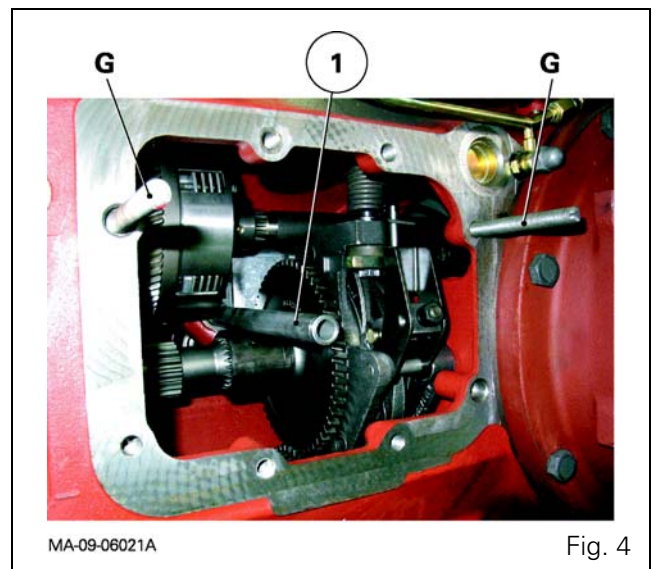

Fig. 4
7. If necessary, remove the transfer pipe (1) (Fig. 4).
9. Check that the O'rings of the transfer pipe (11) are not damaged and refit it on the right-hand cover (Fig. 4).
11. Screw two locally made guide studs "G" into opposing holes on the housing (Fig. 4).
- on the **internal face** (Fig. 4):
- the charge pump (2) with a capacity of 60 cm³/revolution, 71 cm³/revolution or 80 cm³/revolution (according to specification) (GPA20 and GPA40) (110 l/min LS hydraulic system) or the charge pump (2) with a capacity of 100 cm³/revolution (GPA40) (150 l/min LS hydraulic system)
- the drive gear (12) fitted on the charge pump
- the suction manifold (4);
- on the **external face** (Fig. 4):
- the 150 micron suction strainer (6).